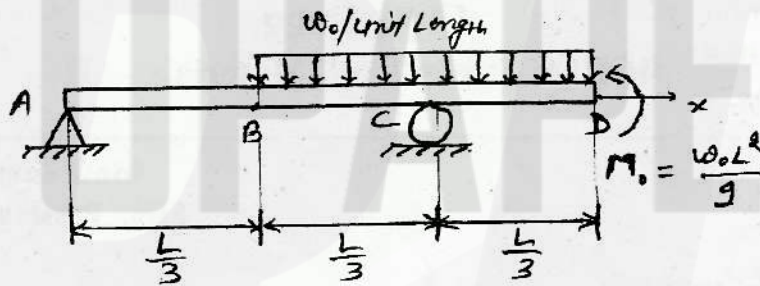

Fig. 2
- 1 The beam AD in fig. 2 below is simply supported at A and C, loaded by a uniform load from B to D, and also by a couple M_0 applied at D, as shown in Fig. 2. Determine the equation of the deflection curve through the use of singularity functions.